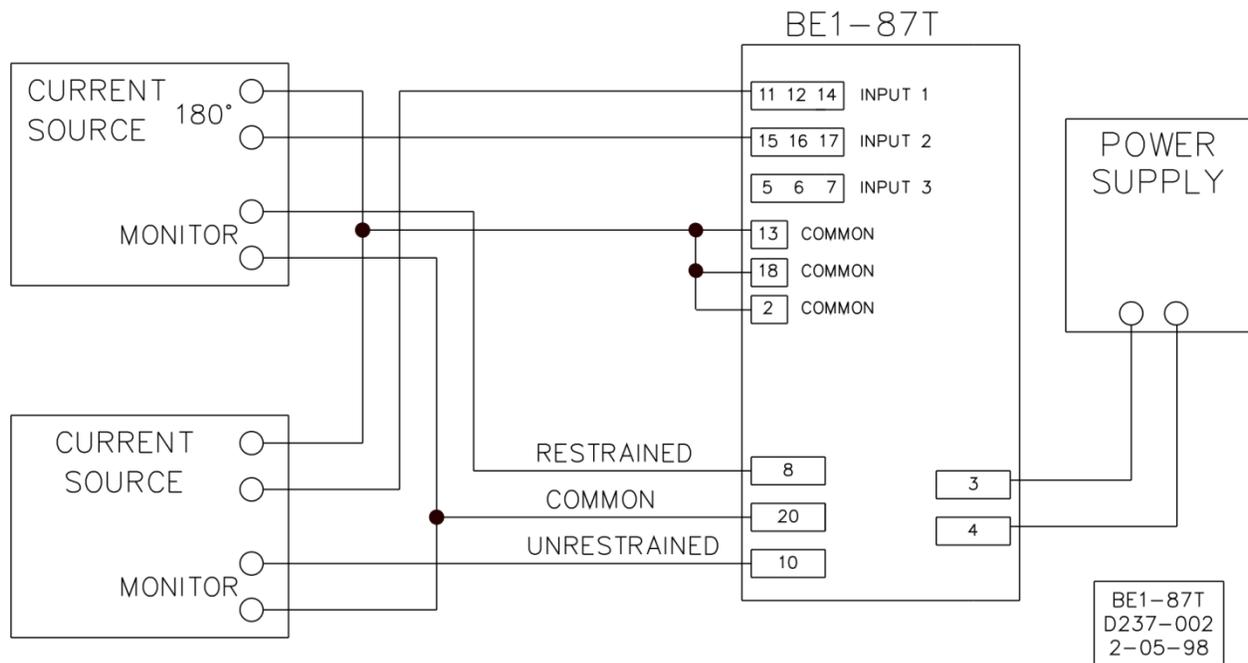

Figure 50. Test Setup, Three-Phase, Sensing Input Type G, Output Option E
- Step 1.** Connect the relay as appropriate (refer to Figures Figure 47 through Figure 50) beginning with input terminals 11 and 13 for the initial tests. Do not apply power at this time.